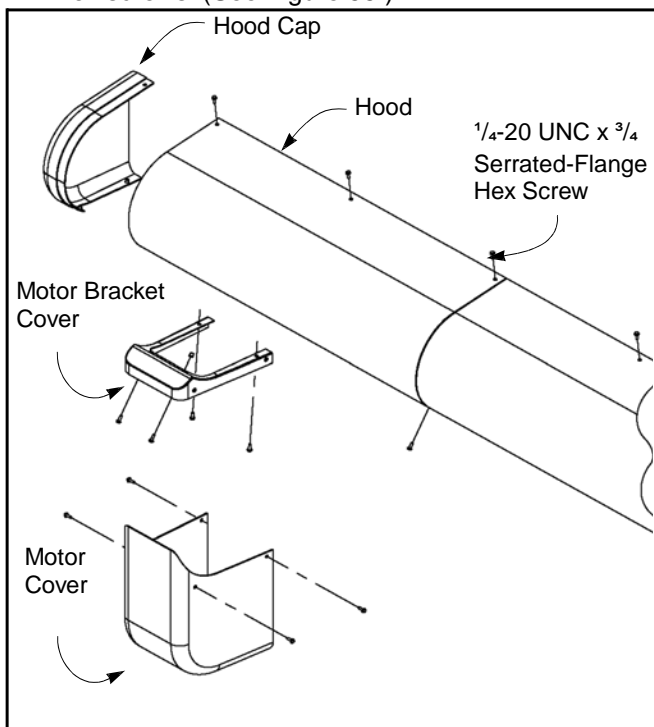

Figure 55
2. Assemble the motor cover, motor bracket, hood cap, and hood using $\frac{1}{4}$ -20 UNC x $\frac{3}{4}$ serrated-flange hex screws. (See Figure 55.)